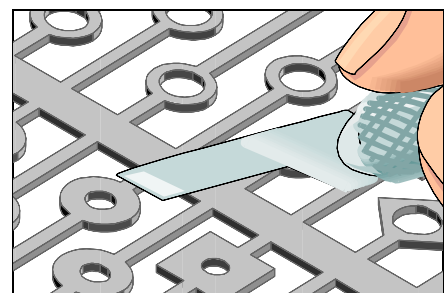

Figure 3: Cut out the replacement land.
9. Cut out and trim the new land. Cut the length to provide the maximum allowable circuit overlap for soldering. Minimum 2 times the circuit width. (See Figure 3).